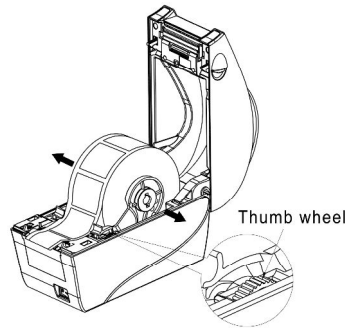

Figure 2.2.4
- 3) Turn the thumb wheel properly in the direction shown in the figure to decrease the force on paper roll (see figure 2.2.4);